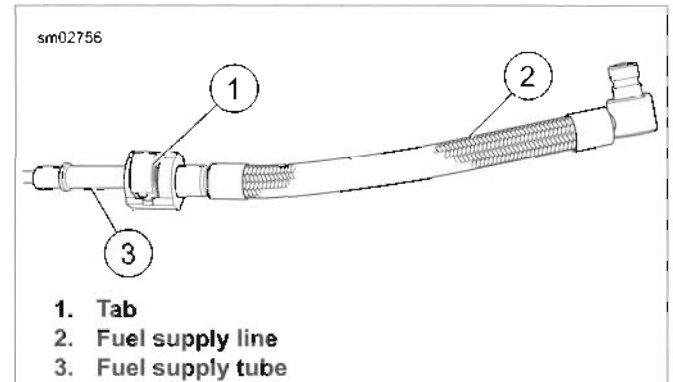

Figure 4-21. Fuel Supply Line
- See Figure 4-21. If replacing fuel supply line (2), squeeze ends of tab (1) and pull tab away from fuel supply line to release from fuel supply tube (3).
- See Figure 4-21. Slide fuel supply line (2) onto fuel supply tube (3). Push in on tab until it locks the fuel supply line (2) on fuel supply tube (3). Tug on fuel supply line (2) to verify that it is locked in place.